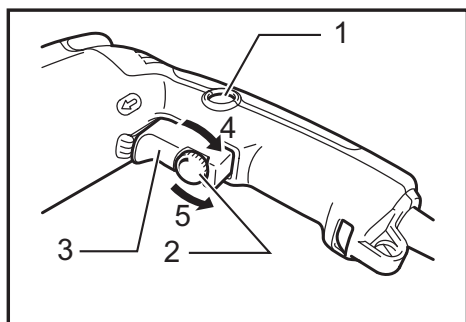

Fig.1
- Fig.1: 1. Lock button 2. Speed control screw 3. Switch trigger 4. Higher 5. Lower